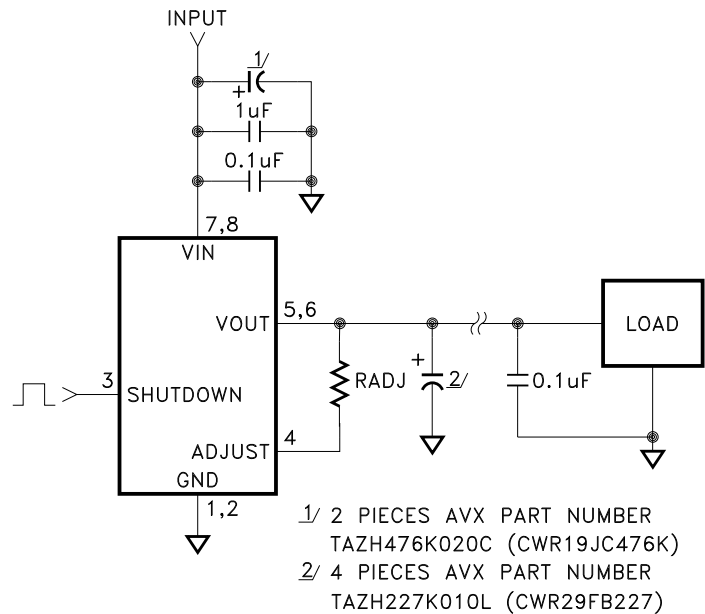

FIGURE 2
- ① Unless otherwise specified, V_{IN} = 3.3V, V_{SHUTDOWN} = 0V and I_{OUT} = 50mA. See figure 2 for typical test circuit.
- ② Guaranteed by design but not tested. Typical parameters are representative of actual device performance but are for reference only.
- ③ Industrial grade devices shall be tested to subgroups 1 and 4 unless otherwise requested.
- ④ Military grade devices ("H" and "K" suffix) shall be 100% tested to subgroups 1,2,3 and 4.
- ⑤ Dropout limited by minimum value of V_{IN}.
- ⑥ Subgroup 1,4 TC = +25°C